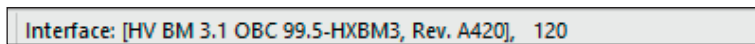

Fig. 5-16: Status bar: "XCP Gateway" interface
- ☞ If an interface is displayed in the status bar of the program window (Fig. 5-16), proceed with chapter 5.4.3.4 "Creating a new configuration file".